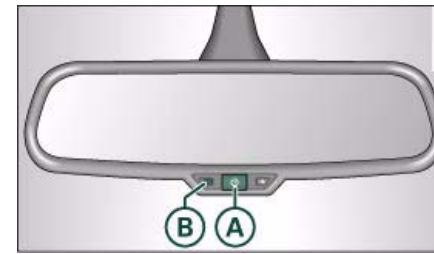

Fig. 67 Anti-dazzle interior mirror: On/off button with indicator lamp
- Press button ① ⇒ fig. 67 - the indicator lamp ② will go out.